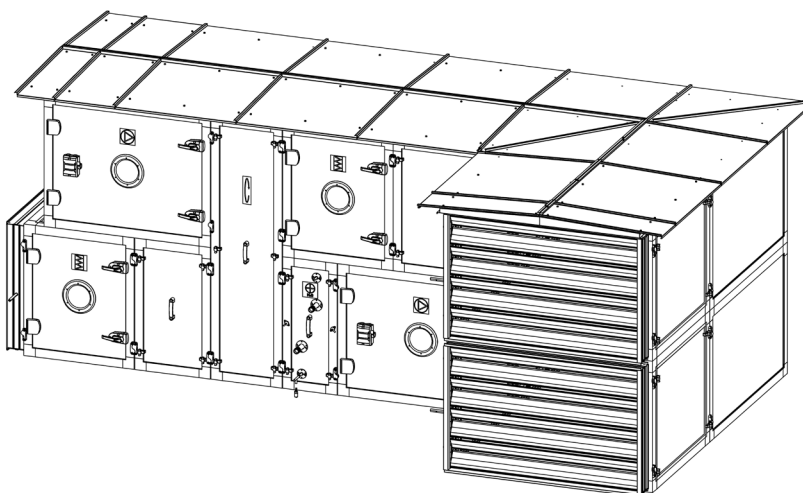

Figure 9.5
6. Fit standard roof segments to the corner roof in accordance with Chapter 4, paragraphs 4, 5, 6 and 7 as shown in Figure 9.5.